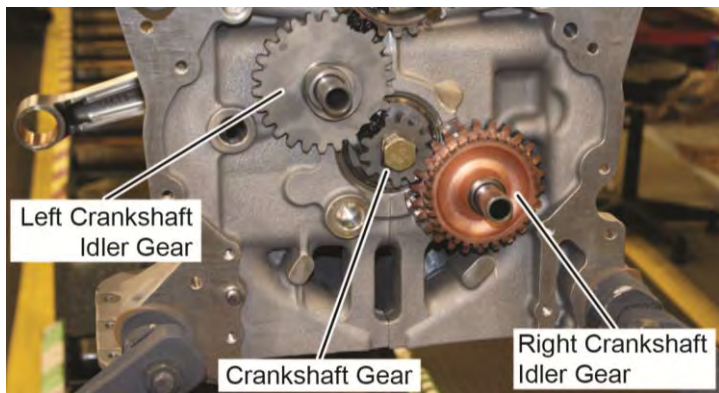

Figure 93
- A. Install the left crankshaft idler gear (Figure 93) in place on the idler shaft with a new bushing (Figure 2). Turn the crankshaft gear and/or the camshaft gear to align the gears.